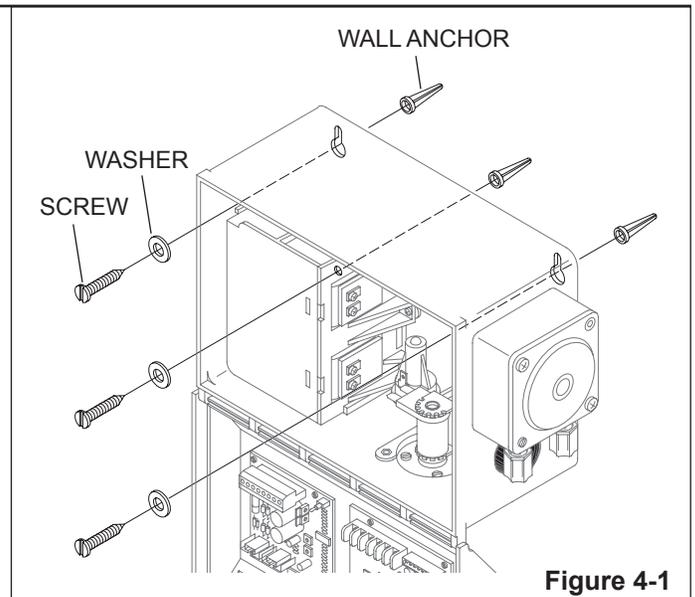

Figure 4-1
1. Mount the plastic transformer enclosure assembly into the plastic GeoCenter enclosure. (Refer to Figure 4-1). Attach to plastic GeoCenter enclosure with 8-32 x 5/16 screw in kit bag. Ground using green/yellow wire.
1. Mount the GeoCenter cabinet to the wall using the supplied screws, washers and plastic wall anchors. The GeoCenter cabinet may also be installed on top of the dish machine, using the universal mounting brackets, and may be the preferred location in some installations. The installation should be secure, neat and square, refer to Figure 4-1.